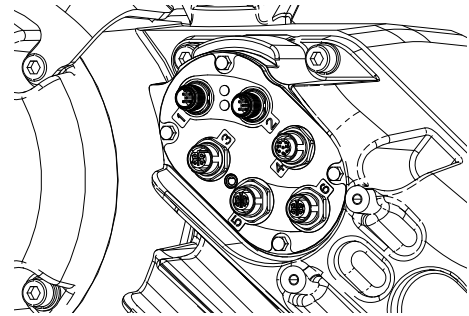

FIG. 27
2. Turn the disconnect switch (M) OFF.
- a. Remove the driver housing cover (HC).
- c. Loosen the cord grip (CG).
- d. Remove wires from driver housing by pulling them through the cord grip (CG).
- e. Disconnect the cables connected to ports 1-6 on the side of the driver, shown in FIG. 27.